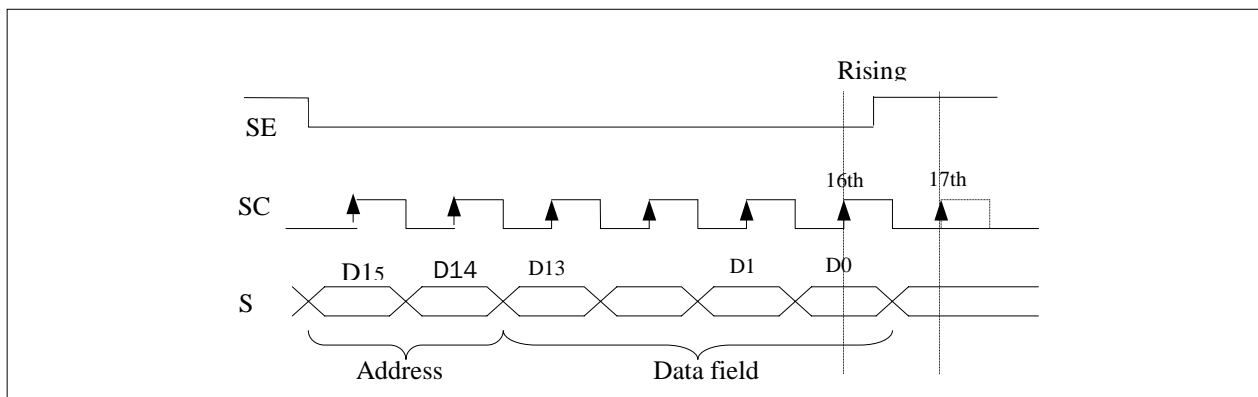

Fig13: Timing diagram
This block has an internal circuitry to check the validity of any input. It counts the number of rising edge on serial clock. The data are transferred from the input shift register to the corresponding configuration register, if and only if 16 edges have been detected on the serial clock (SC). After the 16th edge, any rising edge on SE (serial enable) will latch the data: A rising edge on SE will latch the data in the configuration register if the internal circuit detects it between the 16th and the 17th rising edge on the serial clock (fig13).